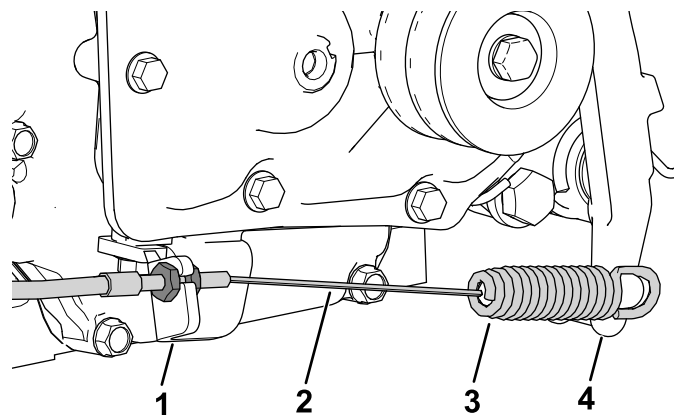

Figure 5
5. Install the clutch cable to the clutch plate (Figure 5).
6. Install the spring end of the clutch cable to the clutch lever (Figure 5).